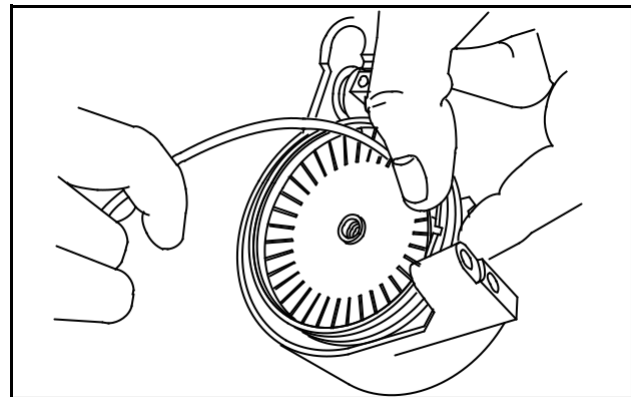

Fig. 627 – WINDING SPRING
3. Rotate pulley clockwise to wind spring into pulley while holding end of spring in outer spring retainer, Fig. 627.